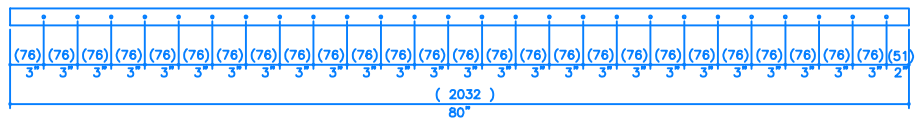

FIGURE 2
- 2) Place three of the four pieces C together and clamp with two bar clamps. Ensure all the ends of the pieces are flush, and starting at the bottom, mark one of the pieces every 3" (Fig 2). This will ensure that all of your shelves will sit level. Remove bar clamps and mark each piece from top to bottom with a 3/4" centre line. This mark should be on the same face as previous marking. This will give you the exact centers for drilling your holes. Drill the holes with a 1/4" bit (assuming your brackets are 1/4" diameter), using the depth gauge (illustration 1), to achieve a 1/2" depth.